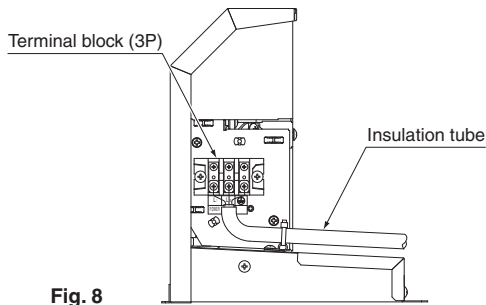

Fig. 8
**(1) Remove the front panel (upper).**
**(2) Remove the electric component box cover.**
**(3) Pass the power supply wiring and the ground wire through the top panel's high-voltage hole (requires use of conduit) and pass the remote controller wiring and transmission wiring through the top panel's low-voltage hole.**
- Pass the included insulation tube through the hole in the panel before connecting the electric wires and the ground wire to the terminal block (3P) shown in Fig. 8.